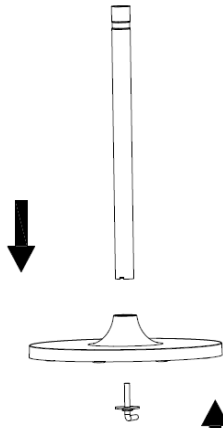

Figure 1
1. Put the column tube through the hole of base and fix them tightly by pipe screw (Figure 1).